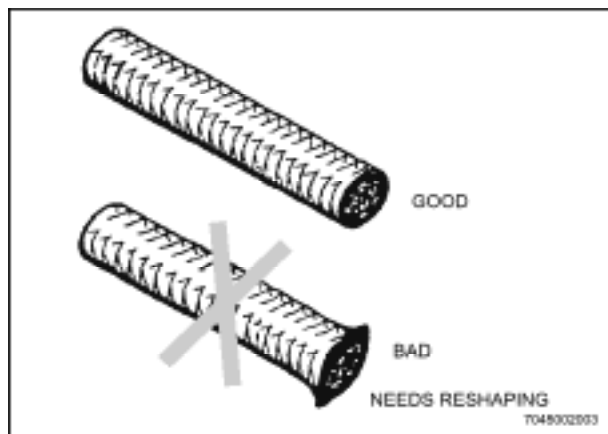

Figure 3-1 Wires After Cutting
2. Cut all wires and cables to lengths given on drawings or wiring diagrams. Cut wire and cable so that cut is clean and square and wire is not deformed (refer Figure 3-1). After cutting, reshape large diameter wire with pliers, if necessary.